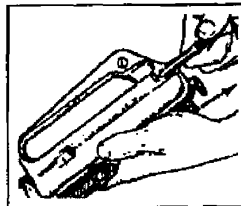

Figure 071-311-2025-9. Pulling the charging handle
- h. Remove the bolt carrier and bolt (figure 071-311-2025-10).**